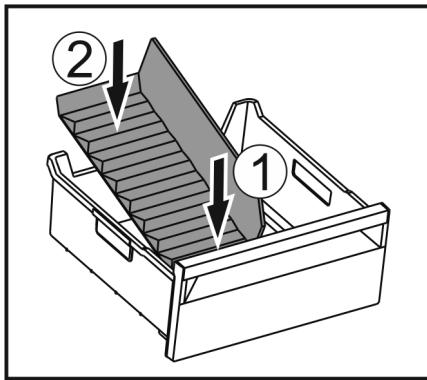

Fig. 168
- ▶ Insert the front part of the ice compartment divider. *Fig. 168 (1)*
- ▶ Lower the rear part of the ice compartment divider to the drawer bottom. *Fig. 168 (2)*